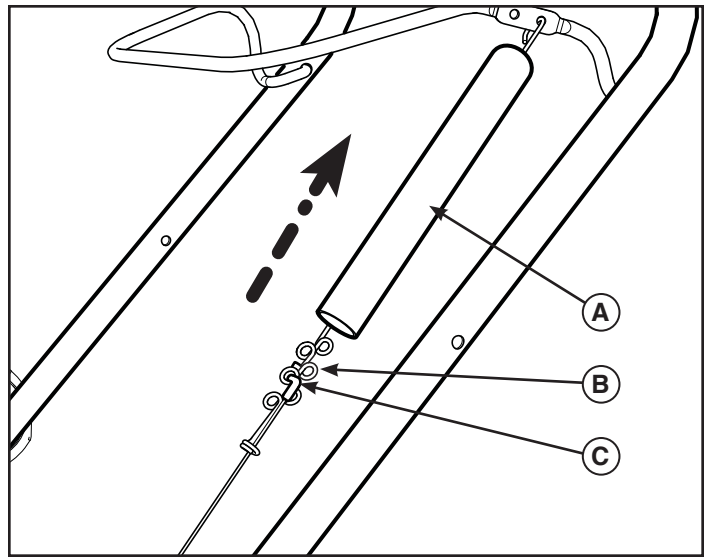

Figure 15
2. Slide the cable cover (**A**, Figure 15) up to expose the cable adjustment loops (**B**) and Z-bend (**C**).